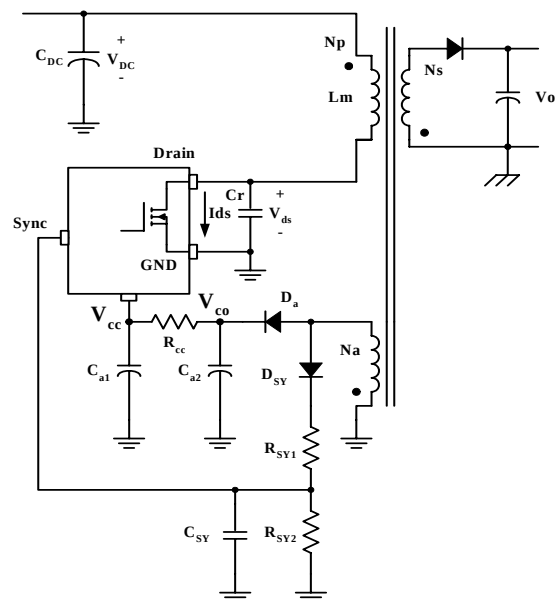
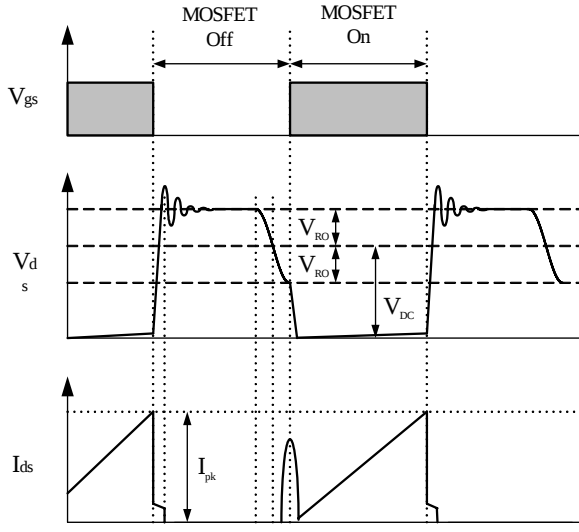
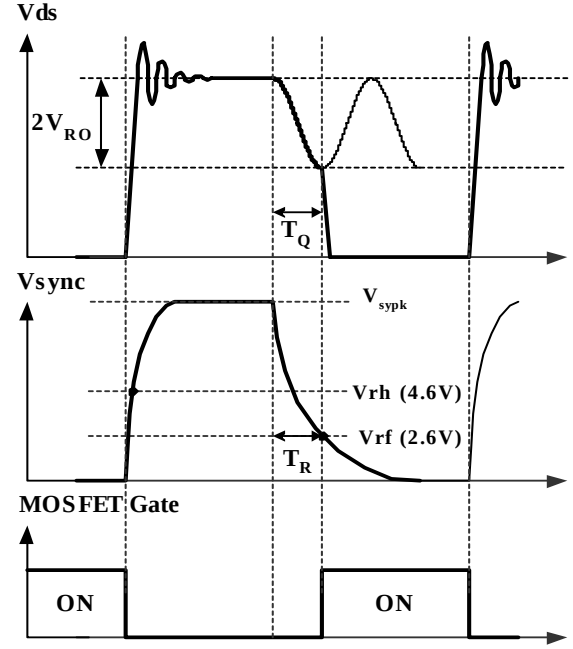

Figure 6. Synchronization Circuit
Figure 7. Quasi-resonant Operation Waveforms
Figure 8. Normal Quasi-Resonant Operation Waveforms
2. **Synchronization:** The FSCQ-Series employs a quasi-resonant switching technique to minimize the switching noise and loss. In this technique, a capacitor (C_r) is added between the MOSFET drain and the source as shown in Figure 6. The basic waveforms of the quasi-resonant converter are shown in Figure 7. The external capacitor lowers the rising slope of the drain voltage to reduce the EMI caused when the MOSFET turns off. To minimize the MOSFET's switching loss, the MOSFET should be turned on when the drain voltage reaches its minimum value as shown in Figure 7.
The minimum drain voltage is indirectly detected by monitoring the Vcc winding voltage as shown in Figure 6 and 8. Choose voltage dividers, R_{SY1} and R_{SY2} , so that the peak voltage of the sync signal (V_{syk}) is lower than the OVP voltage (12V) to avoid triggering OVP in normal operation. It is typical to set V_{syk} to be lower than OVP voltage by 3-4 V. To detect the optimum time to turn on MOSFET, the sync capacitor (C_{SY}) should be determined so that T_R is the same with T_Q as shown in Figure 8. The T_R and T_Q are given as, respectively